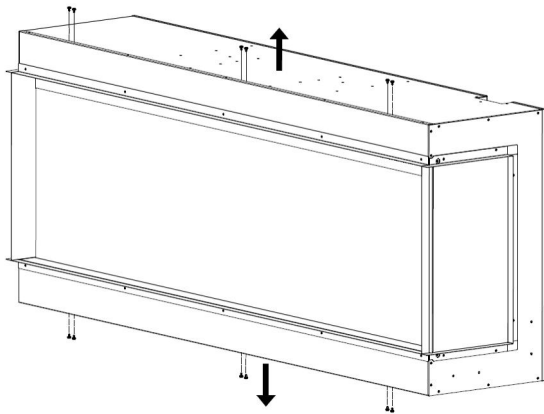

Fig.3-1
4.Remove the screws from the fireplace as shown in the picture below. Fig.3-1